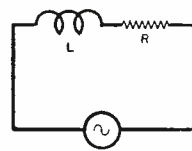

FIG. 2
- In the circuit shown in Fig. 2, the voltage developed across the resistor (a) leads the current (b) lags the current (c) is in phase with the current.
- In the circuit shown in Fig. 2, if the inductive reactance is equal to the resistance, the phase angle is (a) 30 degrees (b) 45 degrees (c) 90 degrees (d) 180 degrees.